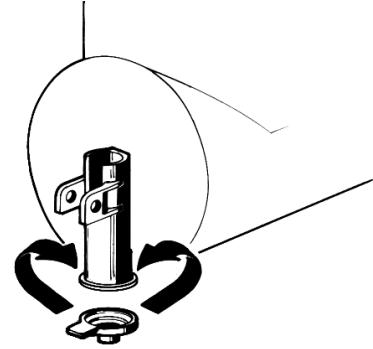

figure 4
- 10 - Restrictor cap: when the unit is used in Soft Drink mode it is advisable to install the restrictor cap on the faucet outlet in order to reduce the drink outflow (see figure 4).